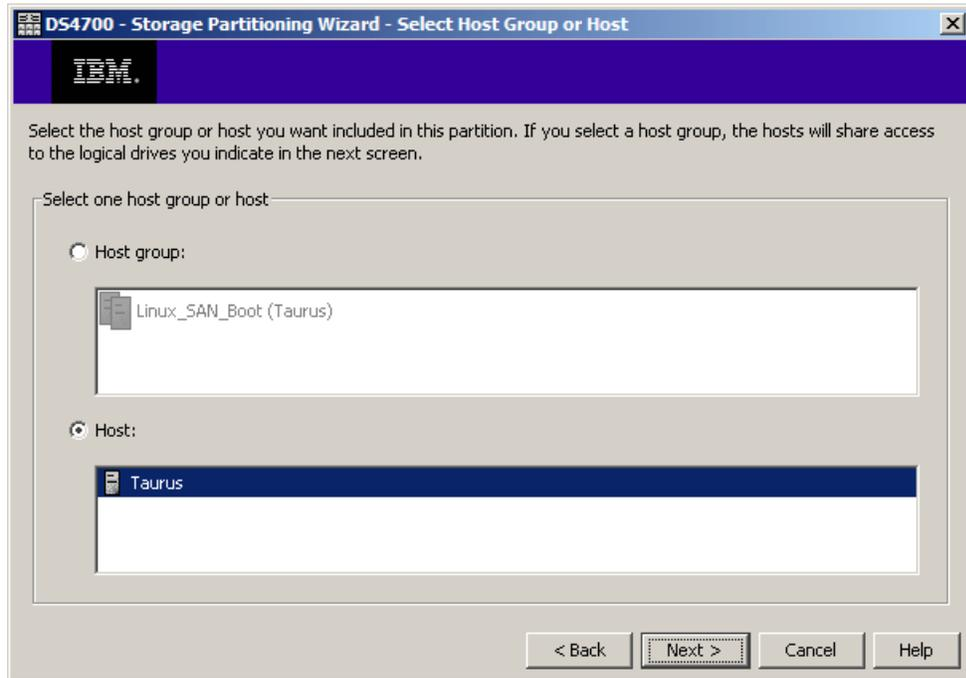

Figure 10-58 Selecting host
In the define storage partitioning wizard, select the host to be included in the partition, as shown in Figure 10-58.
13. Select the logical drive that you just created to be included in the partition and make sure to assign LUN 0 to the logical drive and click **Finish**, as shown in Figure 10-58.